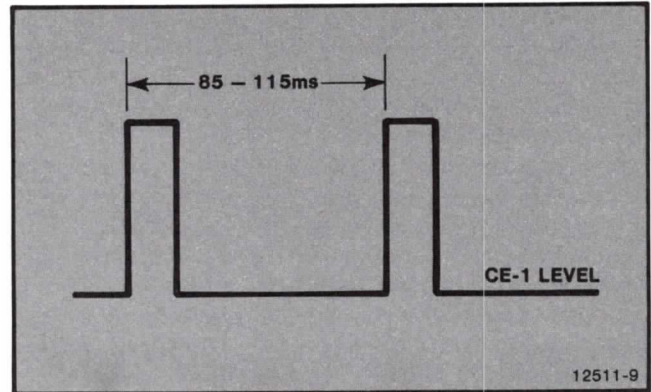

Figure 4-10. CE-1 Waveform.
- d. CHECK — for the CE-1 waveform at TP 92 and verify that its shape conforms to the waveform in Figure 4-10.